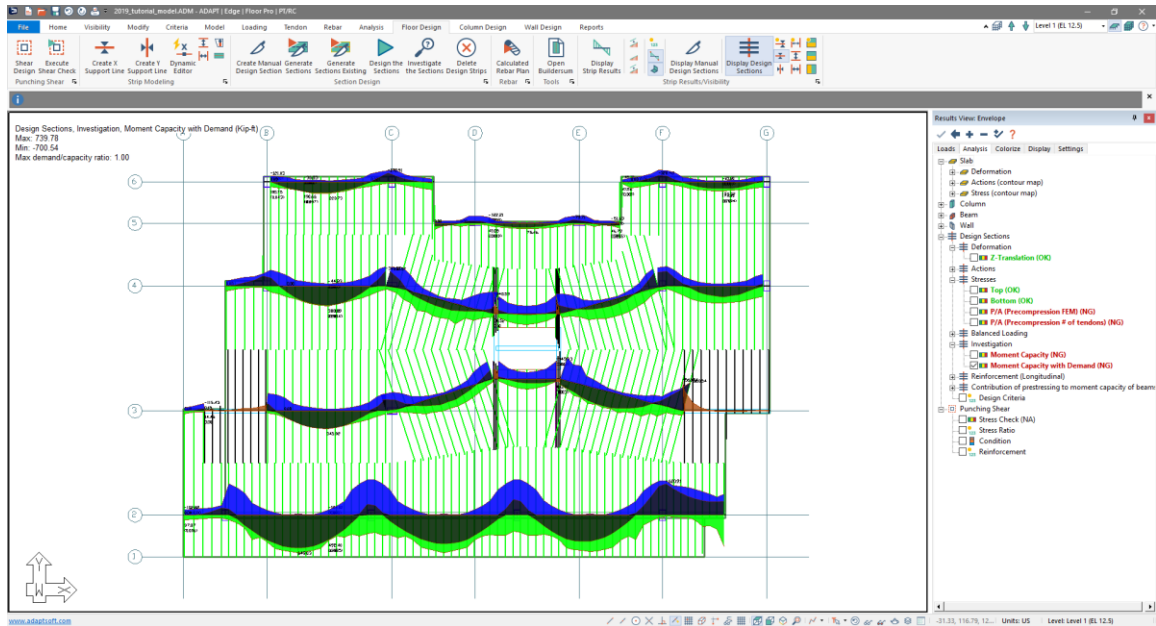

Figure 9-109
- In the *Results Browser Analysis* tab expand the *Design Section* → *Investigation* tree and check the box next to *Moment Capacity with Demand* by clicking on it. The user should now see the moment capacity with demand curve along the support line as shown in **FIGURE 9-109**.